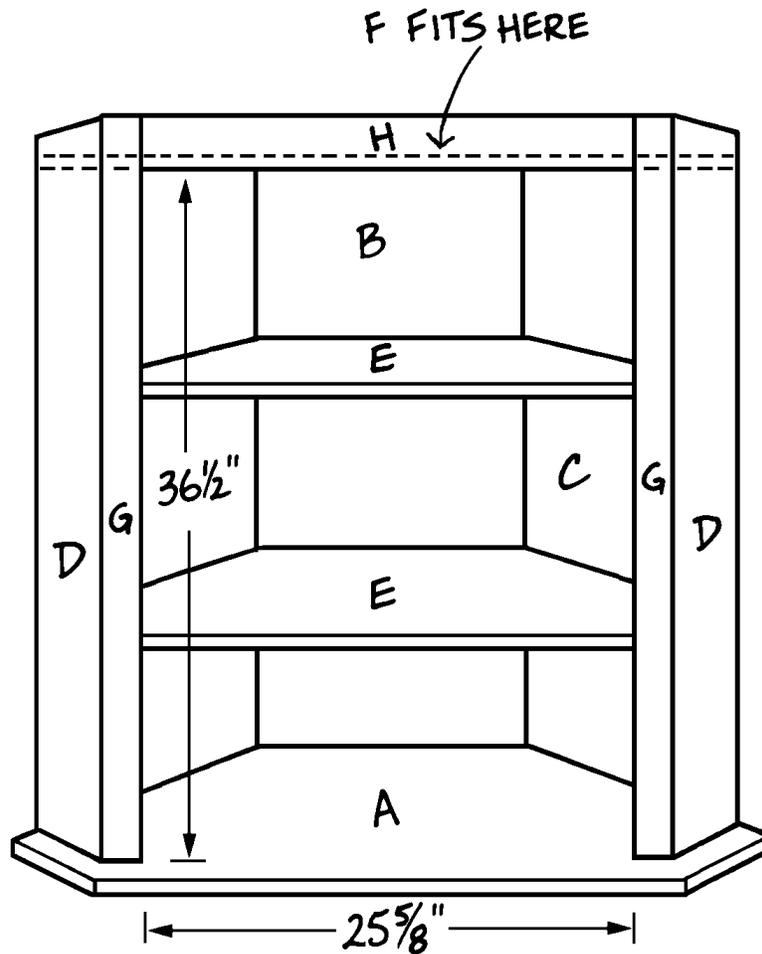

Figure 3
As shown in *Figures 2* and *3*, the upper back (B), upper sides (C) and upper fronts (D) stand on end on top of the upper floor (A). The upper back (B) is set flush with the 13-1/2" edge of the upper floor (A), with its narrower face on the inside of the cabinet. The upper sides (C) are flush with the 19-1/2" edges of the upper floor (A), and their 22-1/2-degree beveled edges fit against the matching beveled edges of the upper back (B). Notice, however, that the 178-1/2"-long end of each upper side (C) is 2" shorter than the corresponding 19-1/2" edge of the upper floor (A). The excess width of the upper floor (A) creates a small "shelf" between the upper and lower cabinet assemblies (see *Figure 3*). This becomes an important design element in the finished project.
5. Repeat Step 4 to attach the remaining upper vertical facer (G) to the right-hand side of the cabinet assembly, again omitting the glue.
6. Check the width of the opening between the two upper vertical facers (G) along the exposed edge of the top (F). Also measure the width of the opening across the middle and bottom. The opening should measure exactly 25-5/8", or the doors will not fit properly. To adjust the opening, remove the two upper vertical facers (G) and alter them as necessary. Then glue the adjusted facers in place and insert 1-1/4" screws through the upper floor (A) and into the bottom edges of the upper vertical facers (G). Secure the meeting beveled edges of the upper front (D) and the upper vertical facer (G) with 3d finishing nails spaced about 6" apart. Also drive nails through the facers (G) and into the edges of the shelves (E) and the upper top (F).
7. Cut one 25-5/8"-long upper horizontal facer (H) from 1 x 4 pine.
8. Fit the upper horizontal facer (H) between the two upper vertical facers (G) and position it so that its bottom edge is flush with the lower face of the upper top (F). Drive two 3d finishing nails through the upper horizontal facer (H) into the edge of the upper top (F), hammering them in only far enough to hold the piece in place.
9. Now measure the opening from top to bottom on the left and right sides and in the middle. It should measure exactly 36-1/2", as shown in *Figure 3*. If necessary, remove the upper horizontal facer (H) and alter it so that the opening conforms to these measurements.
10. Replace the upper horizontal facer (H), glue it in place, and secure with 3d finishing nails placed about 3" apart and driven into the edge of the upper top (F). Also toenail through the ends of the upper horizontal facer (H) into each of the upper vertical facers (G).